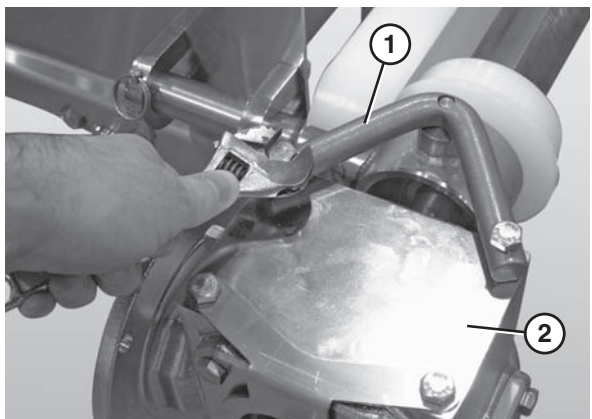

Figure 6
3. Attach the upper gear reducer mounting bar (**Figure 6, item 1**) to the gearmotor assembly (**Figure 6, item 2**).